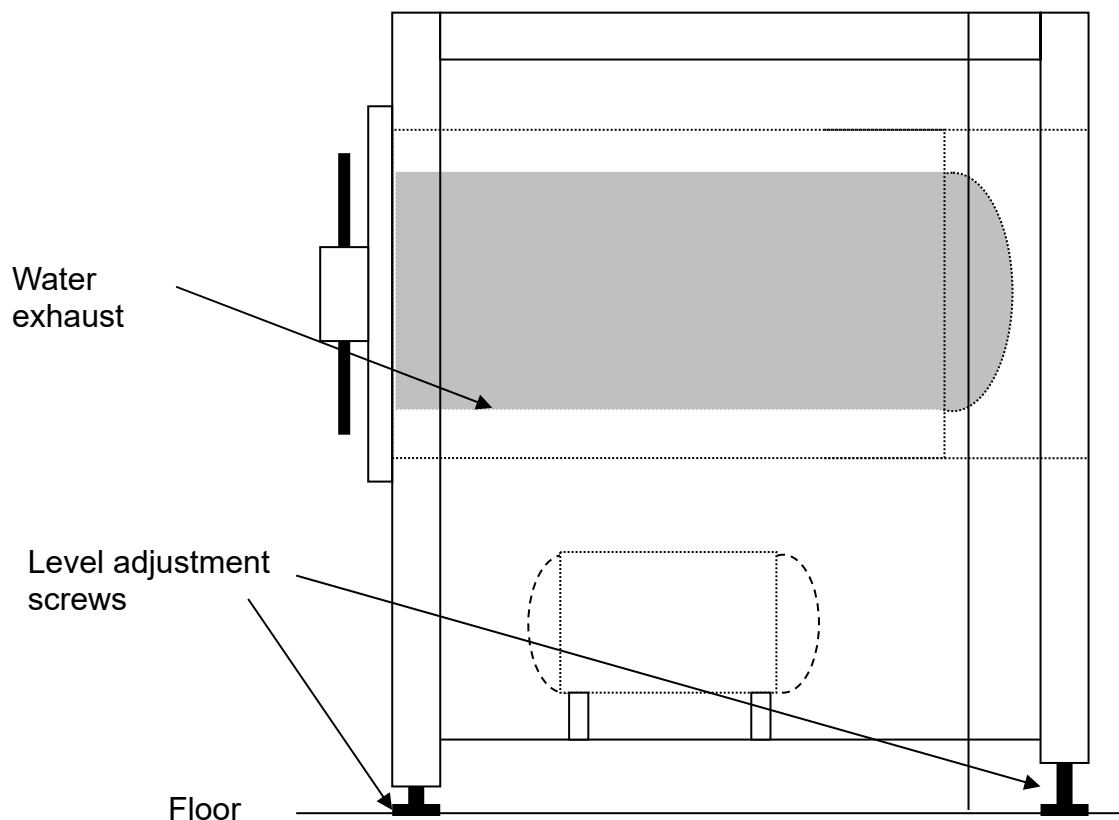

Figure 1
A.1. Locate the autoclave and adjust its plane so that door site is slightly higher than the rear side about 1-2 degree as shown in Figure 1.